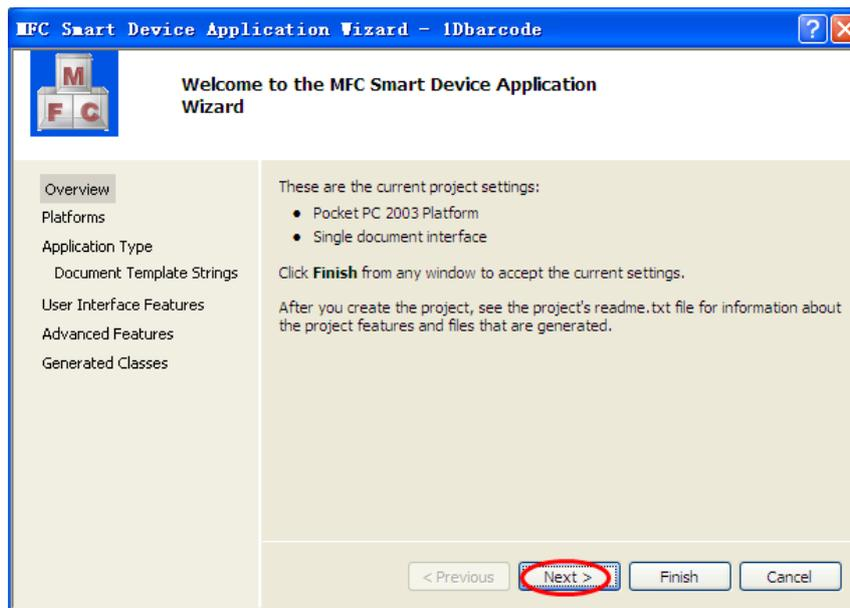

Figure6.1-12
4) Click **OK** to enter **Win32 Application Wizard** as Figure6.1-12.